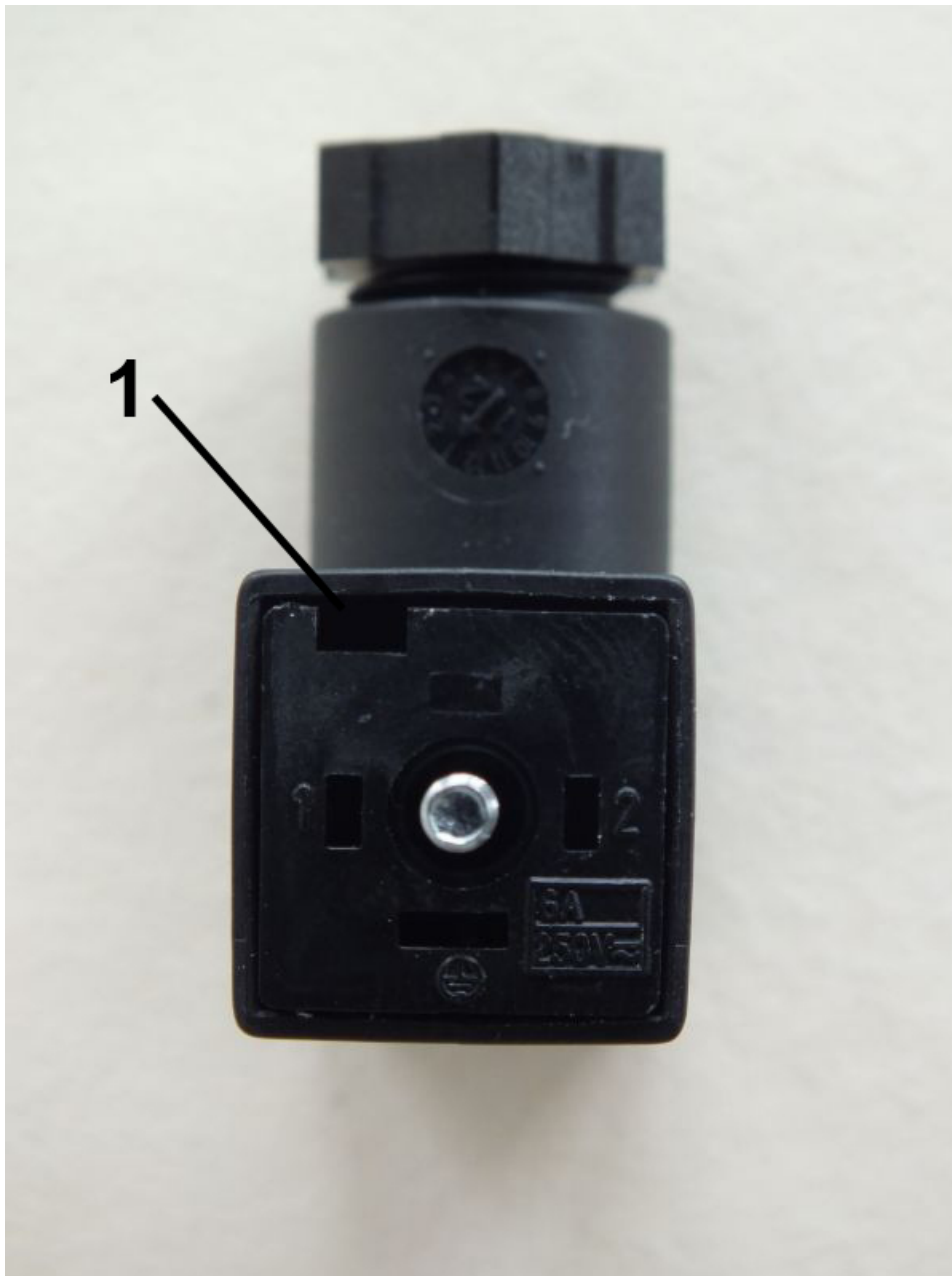

Fig. 24: Loosen inner section
- 3.** ➤ Remove the inner section from the socket by inserting a flat-bladed screwdriver into the slot (*Fig. 24/1*) and carefully pry out the inner section.
- 7.** ➤ Place the inner section (*Fig. 24*) back into the socket and push until it locks on